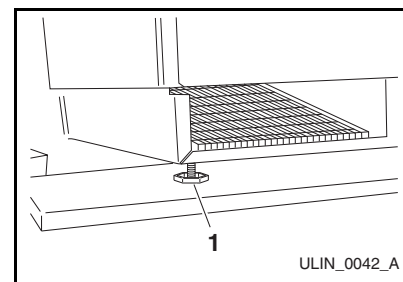

Figure 9
2. If the unit is not level, adjust the feet on the corners of the unit as necessary (Figure 9).